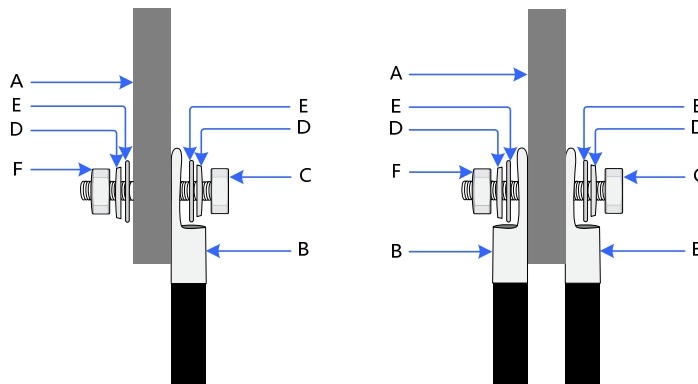

Fig. 8-1 Terminal connection
- Connect the cable lug to the DC copper bus using proper bolt (M10). Procedures are shown in Fig. 8-1.
Step 6 Connect the L1 cable to the L1 or phase A (U) of the grid.
- Connect the cable lug to the AC copper bus using proper bolt (M8). Procedure is shown in Fig. 8-1.